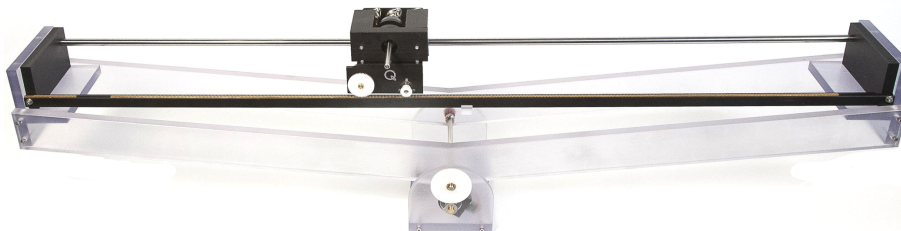

Figure 4.3: SEEPEN mass cart (rear)
3. Place the "mass" cart and rack on top of the SEESAW-E module. make sure to locate the rack in such a way that the IP02 cart pinion are on the **same side** as the SEESAW-E gears, as shown in Figure 4.3.